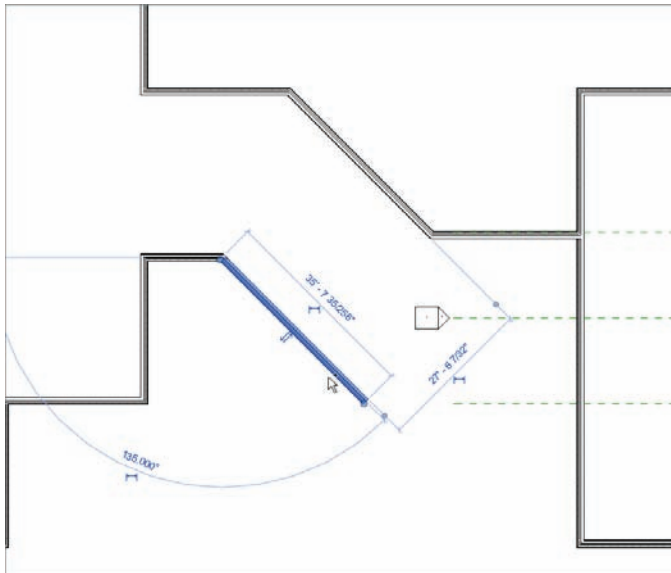

FIGURE 2.14 By selecting a wall, you can make adjustments, such as stretching the ends, by picking the blue grips.
1. Pick the bottom diagonal wall. A number of blue icons and dimensions appear, as shown in Figure 2.14. Each of these icons plays a role in the adjustment of the wall.